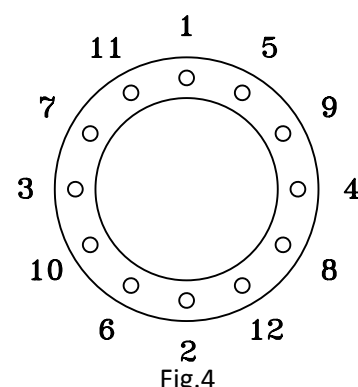

Fig.4
- 8 Tighten diametrically opposed studs giving the nuts one or two turns at a time to draw up the end ring (sealing gland) evenly. The nuts must be thoroughly tightened to achieve the bolt torque figures given below (See fig. 4), working around the flange adaptor as many times as necessary to reach the required torque (see table 2). On completion, radial gap between pipe and flange adaptor end ring should be even all the way round. Rubber may be seen to extrude into the gap.